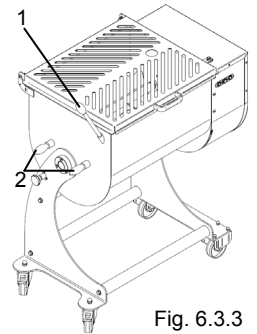
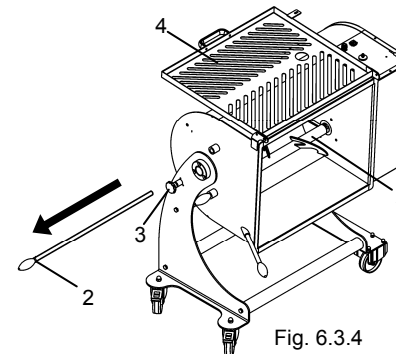

Fig. 6.3.3
Fig. 6.3.4
- With the bowl in a horizontal position grip the handle on the bowl tilting bar "1" Fig. 6.3.3
- Unhook and remove the pins which lock the mixing blades "2" in position Fig. 6.3.3 and "2" Fig. 6.3.4
- Unscrew the bowl locking knob "3" anti-clockwise Fig. 6.3.4
- Once having released the mixing bowl rotate (Fig. 6.3.2) by pulling the tilting bar "1" Fig. 6.3.3.
- Open the grille "4" Fig. 6.3.4 and proceed with removing the mixing blades.
- Grip the mixing blades one at a time "5" Fig. 6.3.4 and pull outwards to remove.